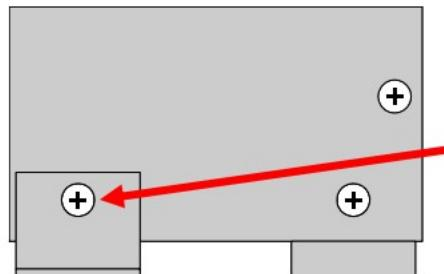

Fig. 3.3a
1. Remove the two screws at the locations shown. (see Fig. 3.3a & 3.3b)